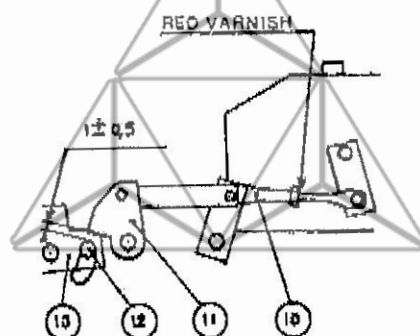

Fig. 12
a. Tripping (Fig. 12)
- 1) Adjustment. With breaker in closed position and release reset, back off red nut until nearly all threads are exposed. Tighten same nut until distance between tripping striker (11) and lug (12) of the latch (13) shown in the normal position is 1 ± 0.5 mm (0.039 ± 0.020 inches).